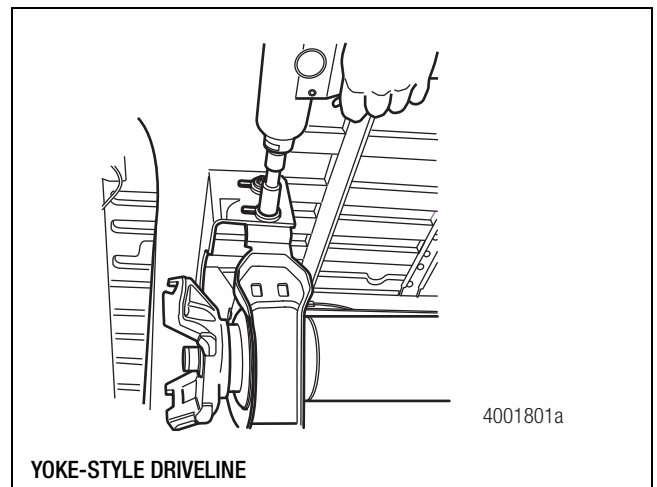
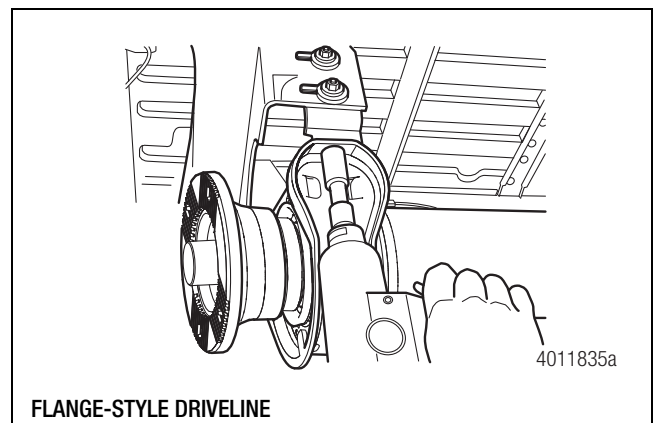

Figure 9.8
Figure 9.9
3. Remove the center bearing bracket bolts. Figure 9.8 and Figure 9.9.